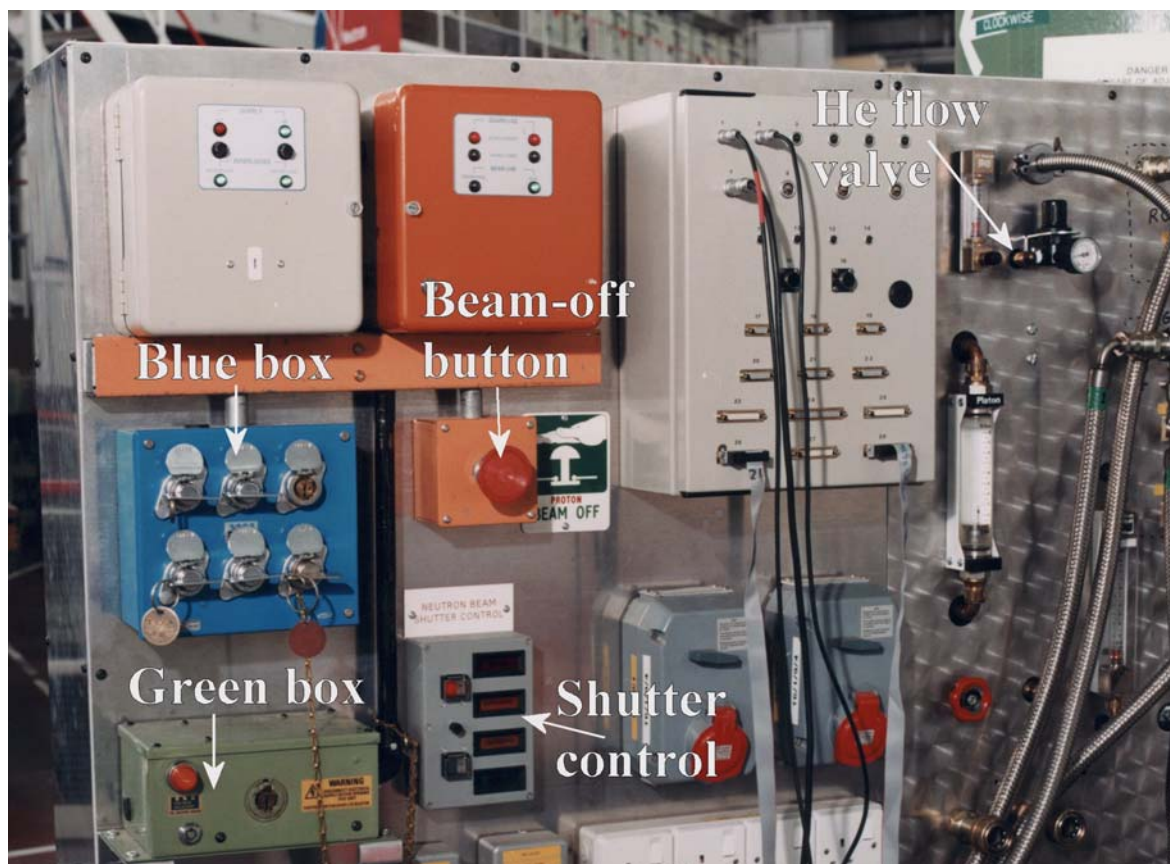

Figure 2.7: TOSCA services panel showing the Green (bottom left) and Blue (centre left) interlock boxes and the shutter control (bottom middle).
Access to the TOSCA CCR is via the “cloche” located on the mezzanine floor. This is interlocked by the standard ISIS key system. The interlocks on the instruments are there to try to make it impossible to get close to the neutron beam. There are two sets of interlock keys: The Master (‘M’) key, which is to be found on the front of the Green box and is labelled with a red tag; The remainder are ‘S’ keys which are located in the Blue box, see *Figure 2.7*. There are two shutter control boxes: one in the cabin and one on the services panel behind the cloche.
2. Close the shutter to the beam (green button marked “CLOSE” on the Neutron Beam Shutter Control Panel located on the services panel by TOSCA, *Figure 2.7*, and in the cabin *Figure 2.8*). The shutter takes a few minutes to close.